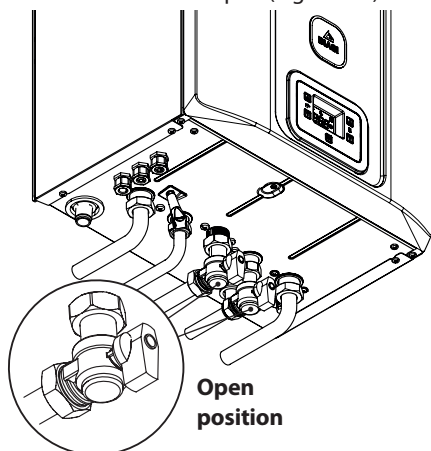

Figure 2.1
- The boiler cocks and the cocks used during installation must be open (Figure 2.1).